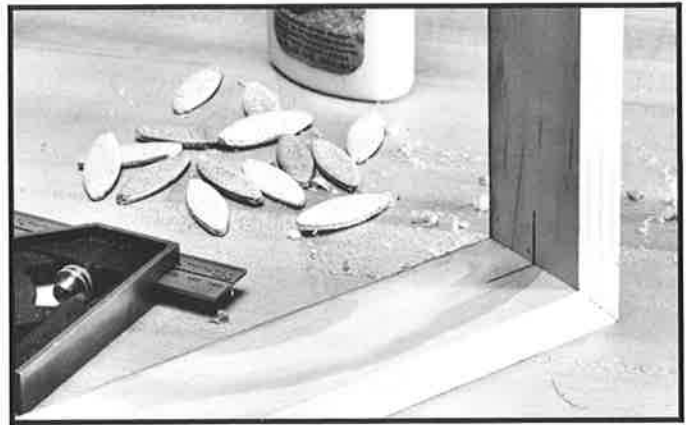

Fig. 42
3. Apply glue to the inside of biscuit slots, insert biscuit and press the two pieces of wood together, as shown in Fig. 42.